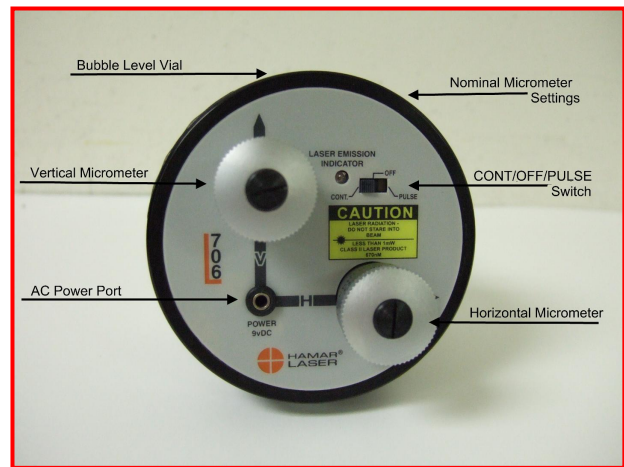

Figure 18 – L-706 Laser
22. Turn the L-111 Coarse *Angular* Pitch and Yaw adjustment knobs (see Figure 16) until the R-1307 reads close to the **V** and **H** *Laser Set Points*. When the adjustment becomes too difficult with the L-111, use the **V** and **H** angular adjustments on the L-706 (see Figure 18) until the values equal the **V** and **H** *Laser Set Points* from Step 21.